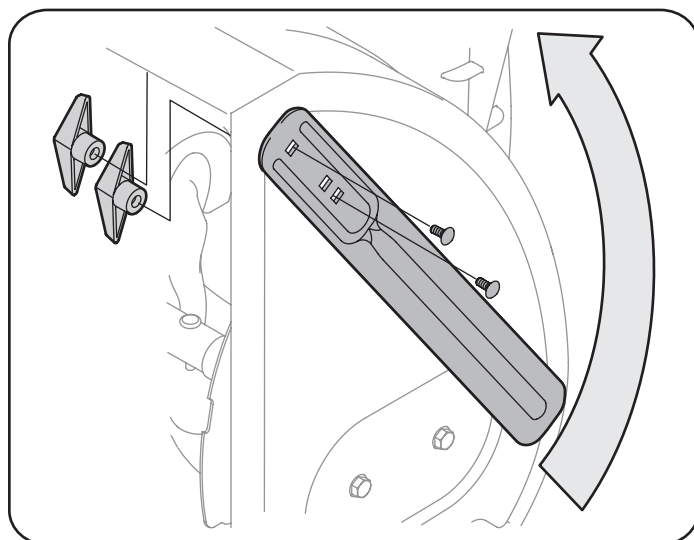

Figure 43
2. Turn the drift cutters around and position them as shown in Figure 43 to the outside of the auger housing.